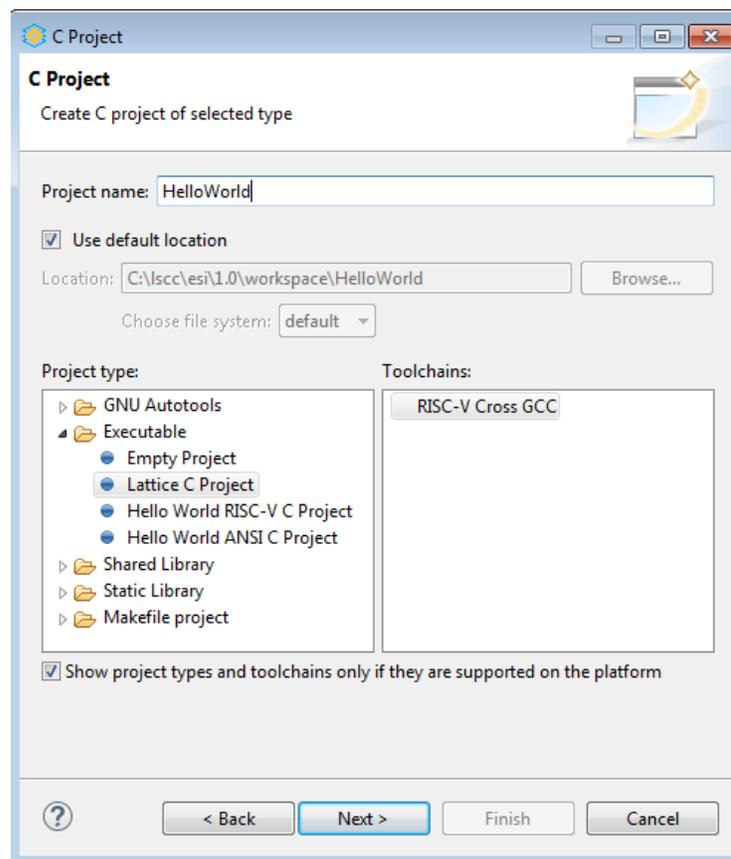

Figure 4.7 Create C Project Page
5. Enter project name “HelloWorld” (Figure 4.7). Click **Next**. Then click **Finish**.